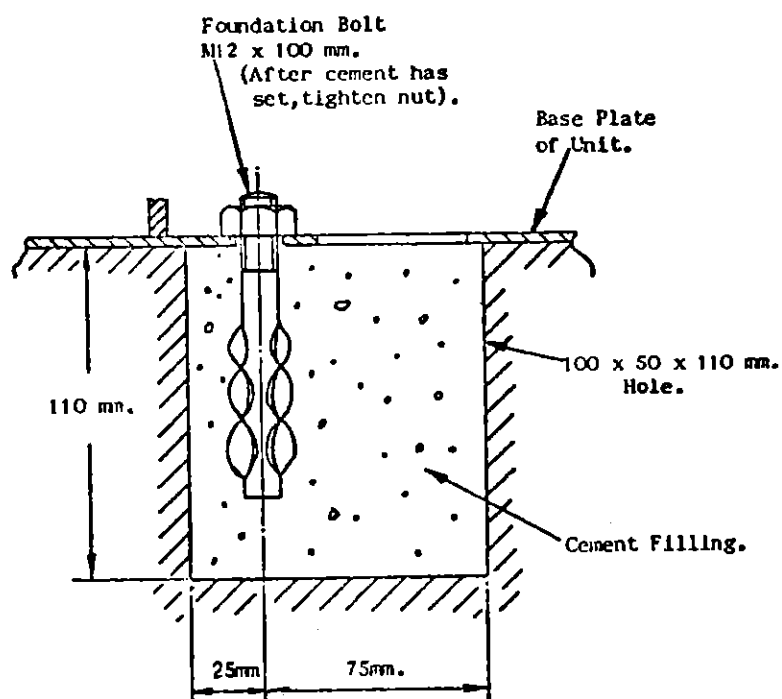

Fig. 4.2. Foundation Bolt Detail.
Where packing shims are found to be necessary, these should be at least 100 x 50 mm and should be positioned at the edges of the unit bottom plate. Care should be taken when tightening down the foundation bolts, see Figure 4.2, since excessive tightening will distort the bottom plate. It is usual, when cementing in the grouting bolts, to flood a 300 mm diameter pad of concrete, thus supporting the bottom plate.
- (v) Grout in foundation bolts, filling holes completely with cement (see Fig.4.2).